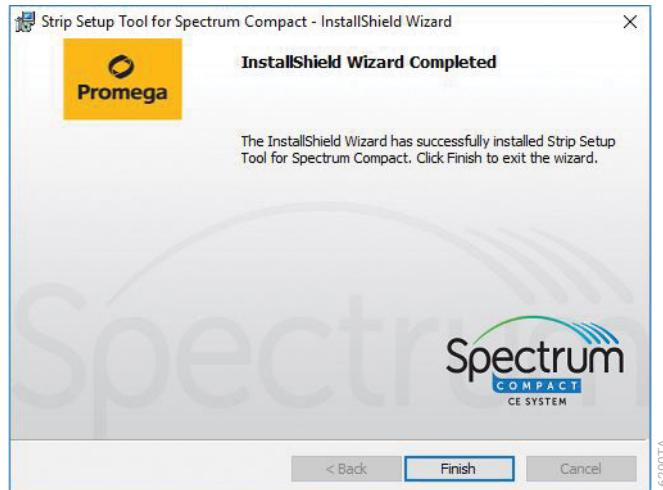

Figure 223. 'InstallShield Wizard Completed' window.
5. The InstallShield Wizard Completed window is displayed (Figure 223) upon successful installation of the tool. Select **Finish** to exit out of the InstallShield window.